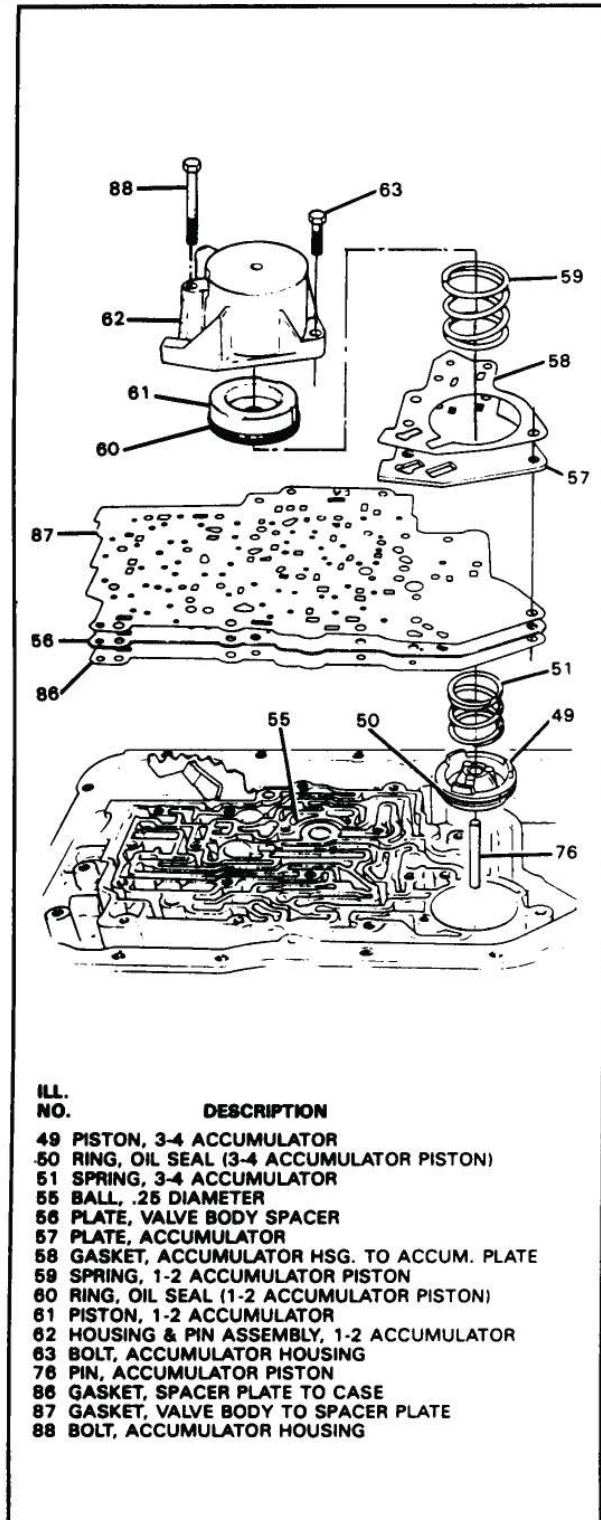

Figure 150
6. Install spacer plate to case gasket marked "C" over guide pins and onto the case, as shown in Figure 150.
7. Install the *proper* spacer plate over the guide pins and on top of the case gasket, as shown in Figure 150.
8. Install spacer plate to valve body gasket that is marked "VB" over the guide pins and on top of spacer plate, as shown in Figure 150.
9. Install accumulator tension plate (57) on top of the valve body gasket as shown in Figure 150.
10. Install 1-2 accumulator gasket (58) on top of the tension plate as shown in Figure 150.
11. Install a new seal on the 1-2 accumulator piston and lubricate with small amount of "Trans-Jel" as shown in Figure 150.
15. Install the 1-2 accumulator piston into the 1-2 accumulator housing as shown in Figure 150.
16. Install the 1-2 accumulator spring into housing and install the complete 1-2 accumulator Asm. onto the transmission as shown in Figure 150.
17. Install the 1-2 accumulator housing retaining bolts as shown in Figure 150.